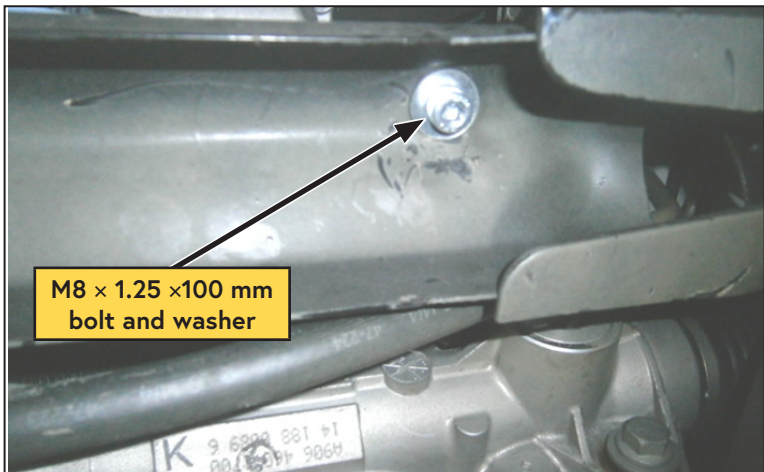

Figure 36 — Install P-clip mount
- Insert the supplied M8 × 1.25 × 100 mm bolt and washer through the hole in the vehicle sub frame (Figure 36).